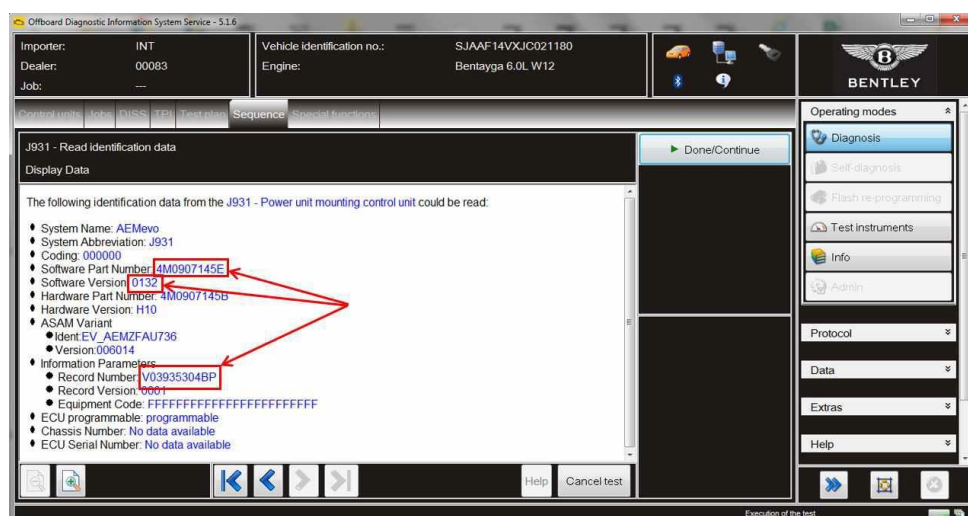

Figure 8
9. Confirm that the software reprogramming has completed successfully. Read the identification data of address 00BA (Figure 8).